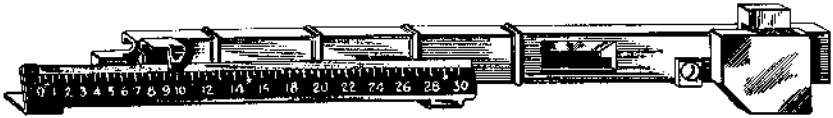

FIG. 2.—Assembler Slide and Scale
**The Assembler Slide** is provided with a *red pointer* which shows on the *stationary scale* how much the line lacks of being full. This is shown in Fig. 2. In the illustration the pointer indicates that the line lacks  $9\frac{1}{2}$  picas of being full. If this line is sent over, it will quad, regardless of the position of the line expansion indicator.